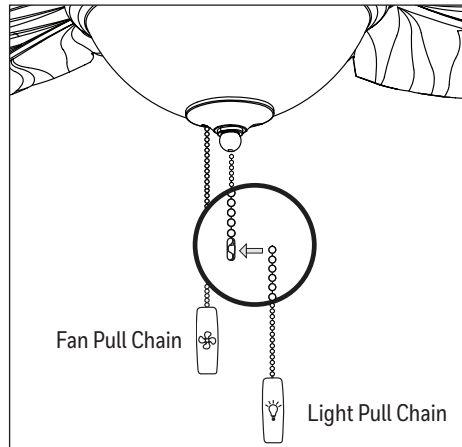

Figure 5.11
11. Attach the pull chain extensions to the pull chains (Figure 5.11).